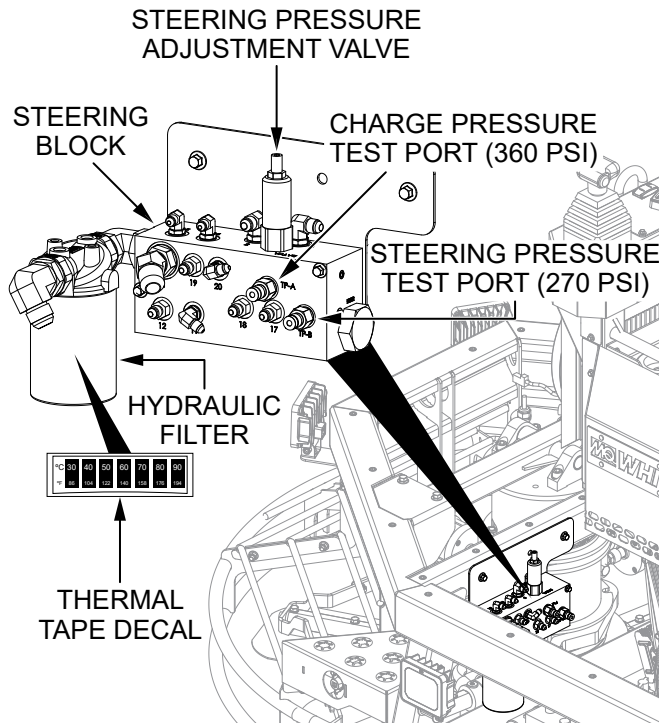

Figure 38. Steering Block Charge Pressure And Steering Pressure Components
Check the charge pressure at the **charge pressure test port** (Figure 38) on the **steering block**. Access the steering block below the platform at the front of the trowel, beneath the foot pedal.
2. Using a Parker PD242 diagnostic test port coupler, connect a 300–600 psi pressure test gauge to the charge pressure test port (Figure 38) on the steering block.
5. Allow the hydraulic system to warm up to 140°F (60°C). Hydraulic temperature is indicated by the **thermal tape decal** (Figure 38) on the **hydraulic filter**.
Check the steering pressure at the **steering pressure test port** (Figure 38) on the **steering block**. Access the steering block below the platform at the front of the trowel, beneath the foot pedal.
3. Using a Parker PD242 diagnostic test port coupler, connect a 300–600 psi pressure test gauge to the steering pressure test port (Figure 38) on the steering block.
6. Allow the hydraulic system to warm up to 140°F (60°C). Hydraulic temperature is indicated by the **thermal tape decal** (Figure 38) on the **hydraulic filter**.
2. Remove the protective cap on the **steering pressure adjustment valve** (Figure 38) and adjust the steering pressure as needed. Replace the protective cap and reinstall the front platform when finished.